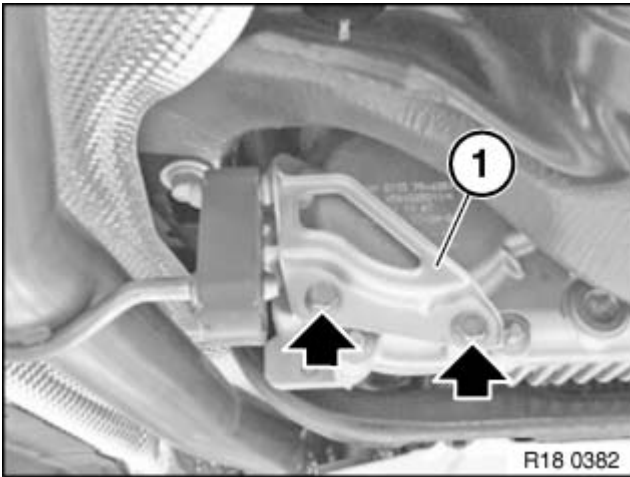

Fig. 17: Locating Screws And Holder (1)
NOTE: Secure exhaust system against falling off. Release screws and remove holder (1). See Fig. 17. Tightening torque 18 20 2A, see EXHAUST SYSTEM - TIGHTENING TORQUES .